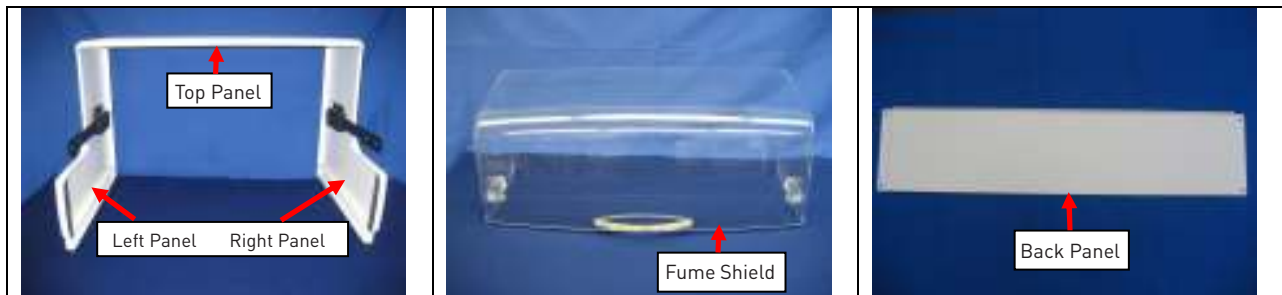

Figure 11
The fume shield assembly has five (5) major components in Figure 11 below. Hardware to assemble these parts is either provided in a separate plastic bag or already installed on the components.